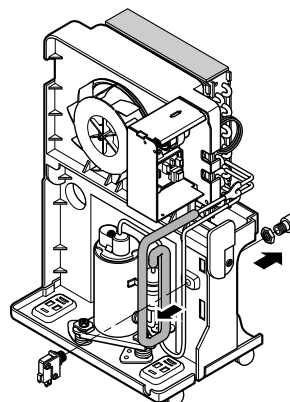

Figure 12
1. Turn the nut counterclockwise and pull out the micro switch from the drain pan. (See Figure 12)